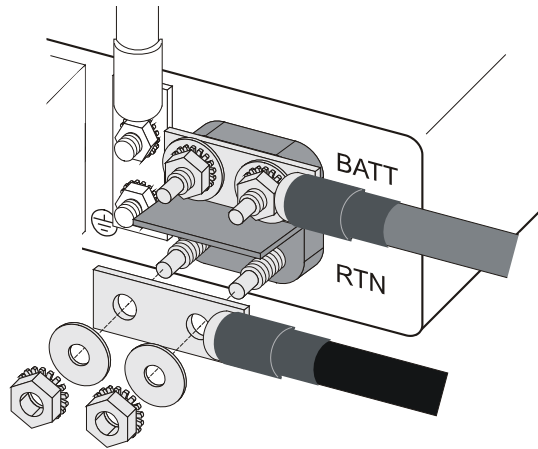

Figure 4 - Input Lug Connections
9. For input wiring — wiring used as inputs to this distribution panel — crimp 2-hole compression lugs onto #4 to #2 AWG copper wires. (See Figure 4.)